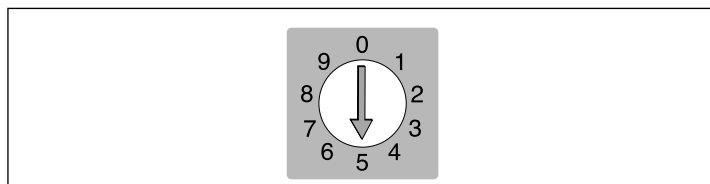

Figure 3: SCSI address selector
- A SCSI Address Selector:** to assign an address, use a screwdriver to aim the arrow at an address number. Use only 0, 1, 2, 3, 4, 5, or 6. Do not use 7, 8, or 9. See Figure 3 for a detailed illustration.
4. **IMPORTANT:** On the back of the scanner is a small dial, which is used for setting the SCSI address for the scanner (see Figure 3). Make sure that each device in your SCSI chain has been assigned a different SCSI address. If necessary, use small screwdriver adjust the wheel so that it points to a new address for the scanner. Use only 0, 1, 2, 3, 4, 5, or 6. Do not use 7, 8, or 9.